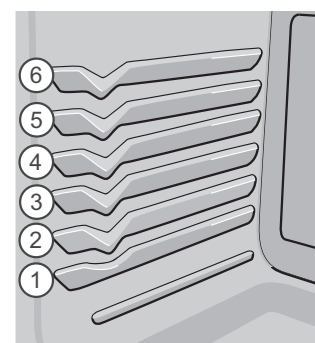

Figure 16: Rack positions
1. Position bakeware in oven to the preferred rack position (Figure 16). Close oven door.